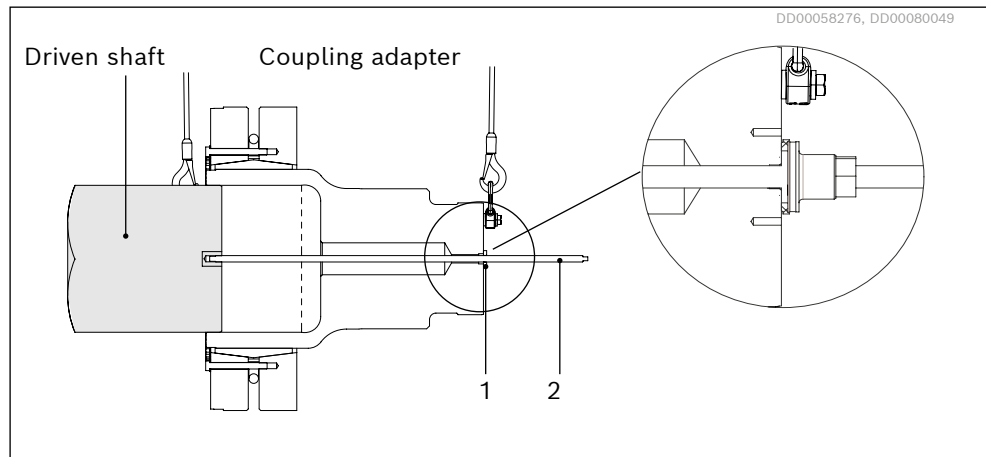

Fig. 35: Mounting the coupling adapter on the driven shaft with the assembly tool.
3. Pass the assembly tool through the centre of the coupling adapter and screw it into the driven shaft by using the squared key in the end of the tool, see Fig. 35.